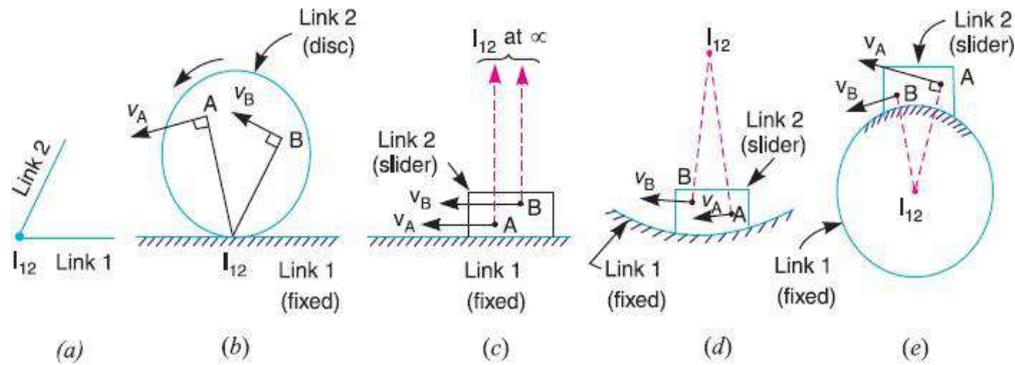

Fig. 3.14 Location of Instantaneous centres
- c. When the link 2 (slider) moves on fixed link 1 having constant radius of curvature as shown in Fig. 3.14 (e), the instantaneous centre lies at the centre of curvature i.e. the centre of the circle, for all configuration of the links.